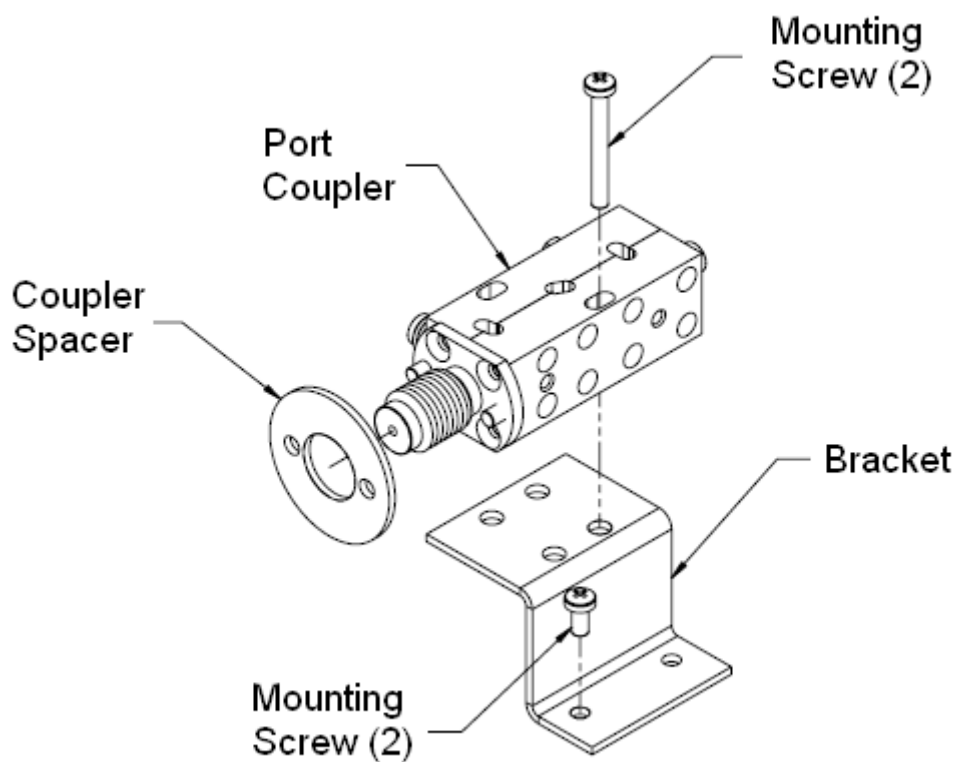

Figure 5-14. Port Coupler Assembly
- See Figure 5-14 on page 5-24 below.
- See Figure 5-14 below.